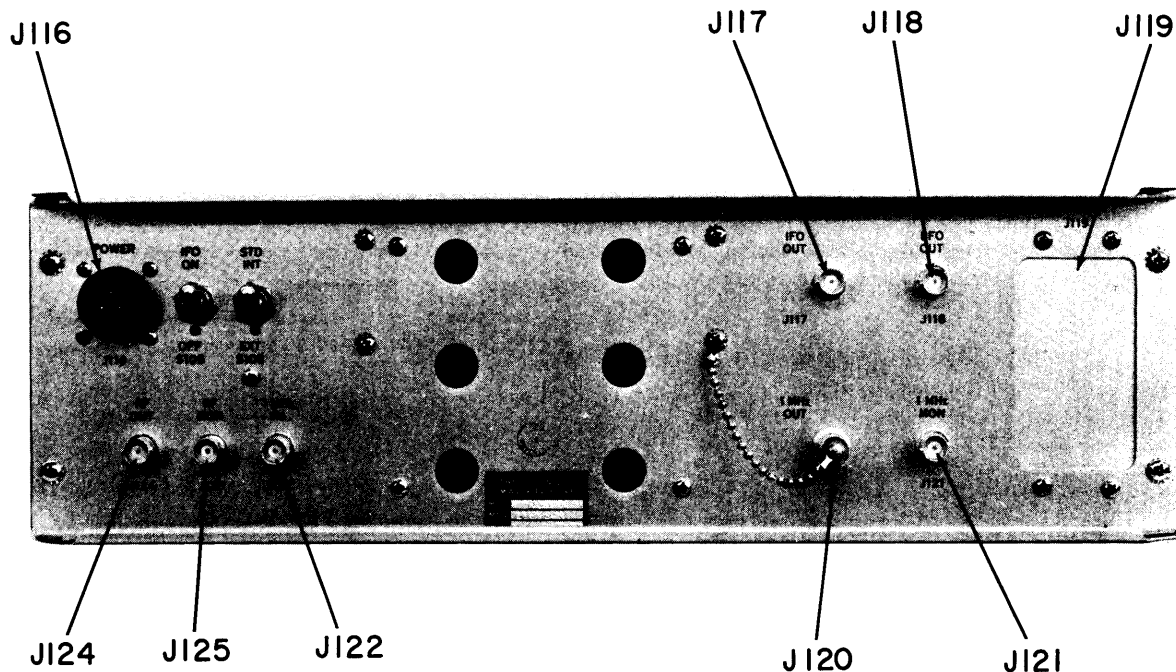
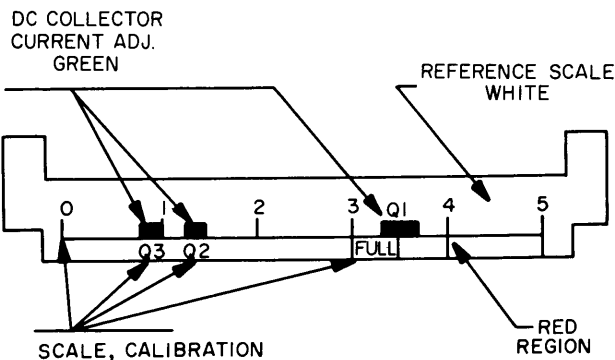

Figure 2-2. Rear Panel Connectors
Figure 2-3. Front Panel Monitor Indicators
All electrical connections between the VOX-7 and associated equipment are made at the rear of the unit. Figure 2-2 illustrates all rear panel connections, while table 2-1 lists the panel designation and function of each connection.
2-5. INITIAL CHECKOUT PROCEDURE (See figures 2-2 and 2-3).
- Set ON/STANDBY switch (9) to STANDBY position. STANDBY indicator (7) shall illuminate amber.
- Using the seven frequency selector switches (10), establish the desired rf.
- On rear panel, set STD/INT switch S108 (figure 2-2) to INT position.
- Set ON/STANDBY switch (9) to ON position. STANDBY indicator (7) shall extinguish and POWER indicator (8) shall illuminate red.
- e. Set METER switch (2) to Q1 position. MONITOR meter (4) shall indicate in the green region marked Q1. (See figure 2-3.)
- f. Set METER switch (2) to Q2 position. MONITOR meter (4) shall indicate in the green region marked Q2. (See figure 2-3.)
- g. Set METER switch (2) to Q3 position. MONITOR meter (4) shall indicate in the green region marked Q3. (See figure 2-3.)
- h. Set METER switch (2) to IFO position (if IFO option is installed). MONITOR meter (4) shall indicate FULL.
- i. Set METER switch (2) to BFO position (if BFO option is installed). MONITOR meter (4) shall indicate FULL.
- j. Set METER switch (2) to RF position. MONITOR meter (4) shall indicate zero with RF OUTPUT control full counterclockwise.
- k. Connect a VTVM (Hewlett-Packard Model 410B, or equivalent) to RF OUT jack J124 (figure 2-2) across a 50-ohm load resistor. Adjust RF OUTPUT control (1) until VTVM indicates 7.0 volts.
- l. Remove VTVM and connect oscilloscope (Tektronix Model 541A, or equivalent) to RF OUT jack J124 (figure 2-2). Display waveform shall be a sharp undistorted sinewave with on modulation signal appearing on any position of the oscilloscope's time/cm scale.
- m. Remove oscilloscope. Connect spectrum analyzer (Lavoie Model LA-40) to RF MON jack J125 (figure 2-2).
- o. If VOX-7 is equipped with IFO option, connect oscilloscope to IFO OUT jack J117 (figure 2-2).
- p. Set IFO ON switch (12) to ON. Oscilloscope shall indicate assigned IFO frequency.
- q. If VOX-7 is equipped with BFO option, connect oscilloscope to BFO OUT jack J118 (figure 2-2).
- r. Set BFO/OFF switch (6) to BFO position. Oscilloscope shall indicate assigned BFO frequency.
a. Connect source of 115 vac, single phase power to connector J116 (figure 2-2). Observe that STANDBY indicator (figure 3-1, 7) illuminates amber.
b. Make necessary interface connections on rear panel jacks. (See figure 2-2.)
c. Using the seven frequency selector switches (10) establish the desired rf operating frequency as displayed in the frequency readout windows.
d. Position the BFO switch (6) and IFO switch (12) to the desired mode, if applicable.
e. Set METER switch (2) to the circuit function to be monitored on MONITOR meter (4).
f. Set ON/STANDBY switch (9) to ON. Observe that STANDBY indicator (7) extinguishes and POWER indicator (8) illuminates red.